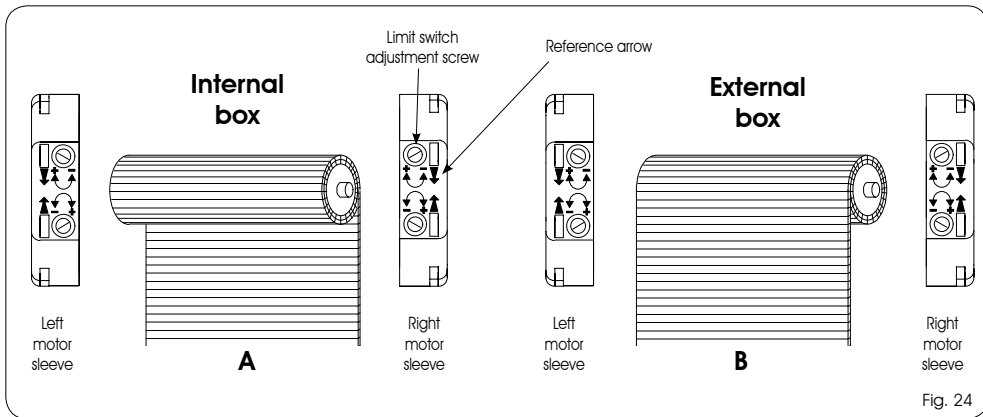

Fig. 24
10.2 CONFIGURATION WITH INTERNAL BOX (Fig.24 ref.A)
10.3 CONFIGURATION WITH EXTERNAL BOX (Fig.24 ref.B)